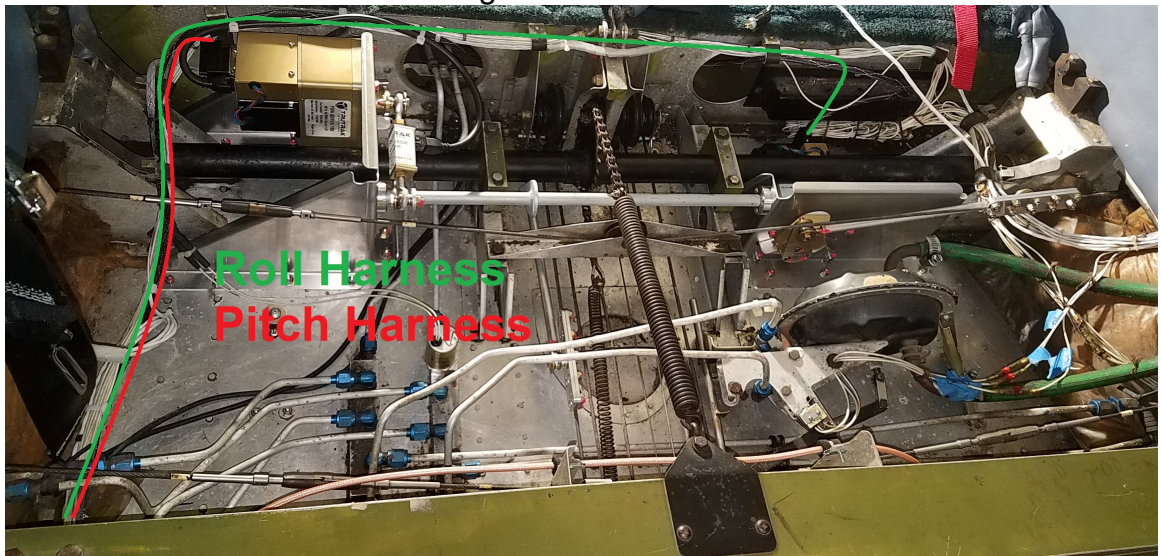

Figure 3-3
4.3. Route the pitch and roll harnesses to the corresponding servos as shown in Figure 3-3.